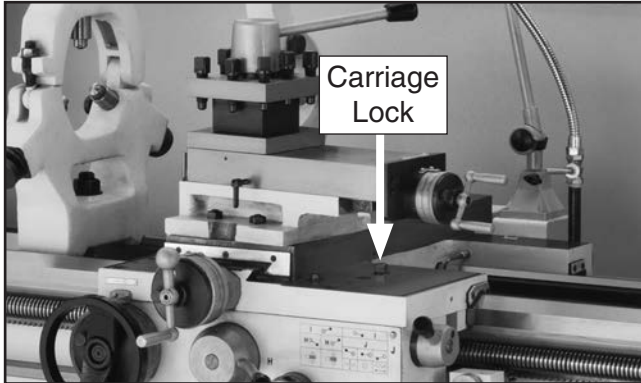

Figure 133. Location of carriage lock.
3. If the carriage lock (see **Figure 133**) is tight, loosen it two turns.